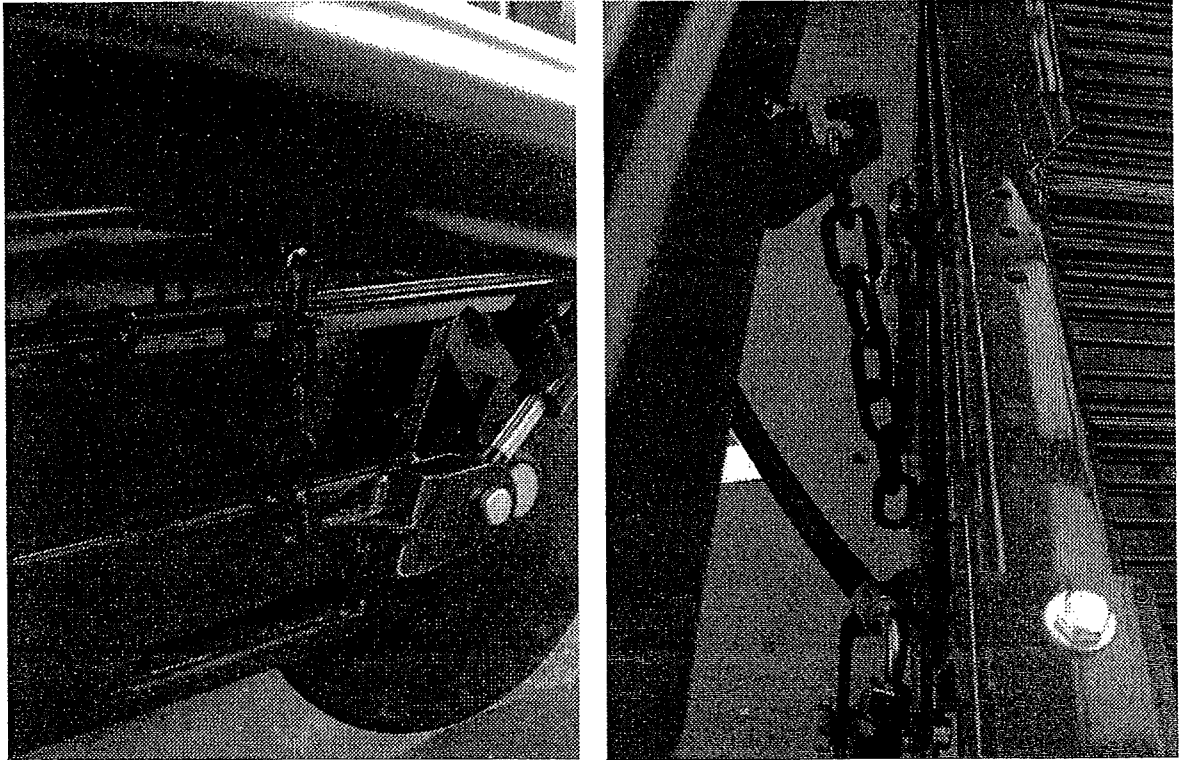

Fig 9.2
- B. Operate the share control (see section 4,) to raise the floating chassis, fit the transport chains (Fig 9.2) onto the hooks provided on the main chassis (Fig 9.2), both sides of the machine. Operate the share control again to lower the floating chassis so that its weight is supported onto the transport chains.